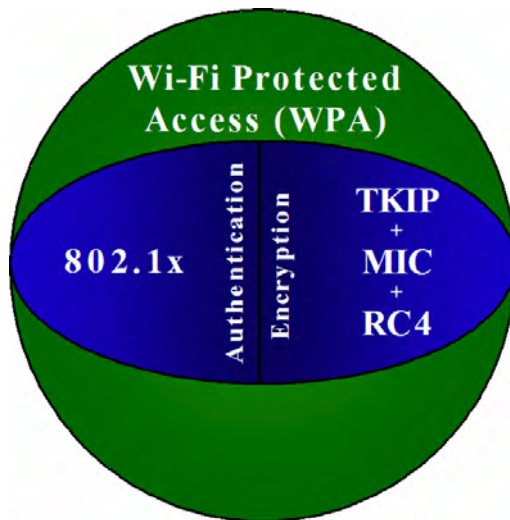

FIG. 92 WPA Overview
- To resolve problems with WEP, the Wi-Fi Alliance released WPA (FIG. 92), which integrated **802.1x**, **TKIP** and **MIC**. Within the WPA specifications, the RC4 cipher engine was maintained from WEP. RC4 is widely used in SSL (Secure Socket Layer) to protect internet traffic.